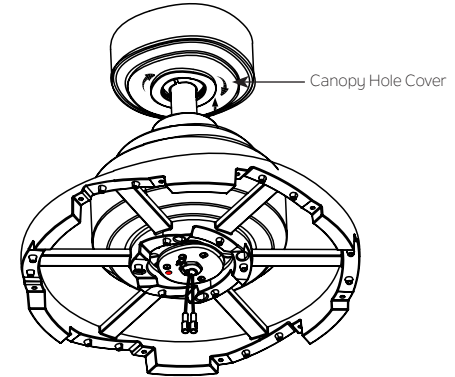

Fig. 17
Step 3. Securely attach and tighten the canopy hole cover over the shoulder screws in the mounting bracket utilizing the keyslot twist-lock feature. (Fig.17)